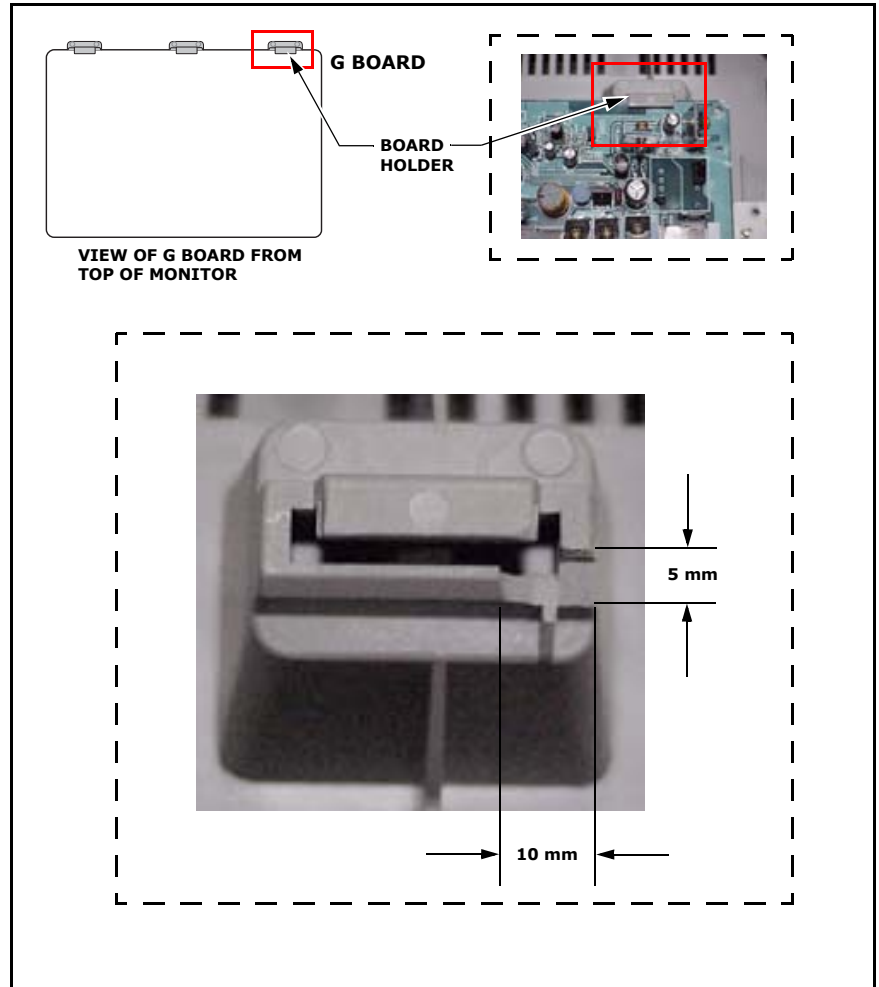

Figure 1
2. Facing the rear of the monitor, cut out a section of the right board holder that secures the G board to a size measuring 10 mm long, 5 mm wide, and 3 mm deep. (See Figure 1.)